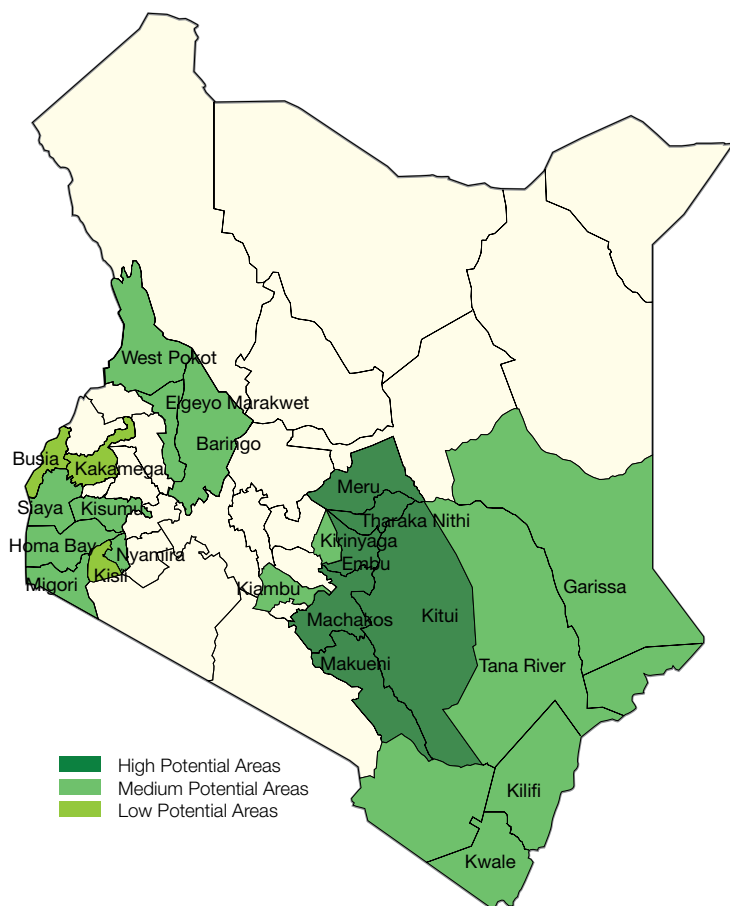

Figure 2: Greengram producing Counties in Kenya
According to 2018 Kenya National Crop data, the total hectareage for greengram was 362,938 ha against the production of 206,619 metric tonnes (MT) translating to 570 kg/ha or 6 bags of 90 kg/ha. Figure 2 shows the potential greengram growing areas in Kenya.